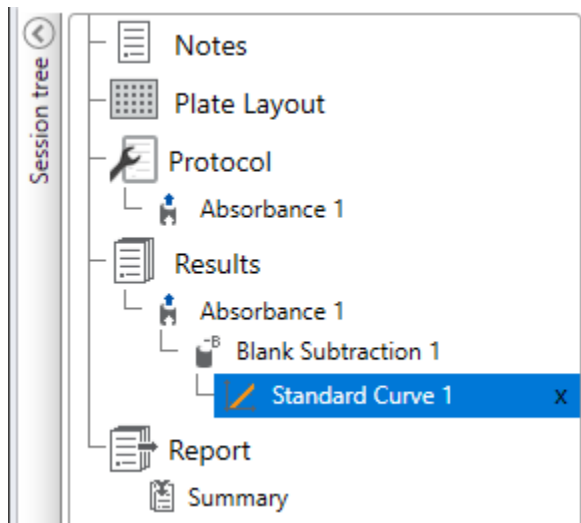

Figure 3: List of all components needed for the experimental session.
11. Double check to ensure that the plate layout, protocol, and results configurations are correct (**Figure 3**).